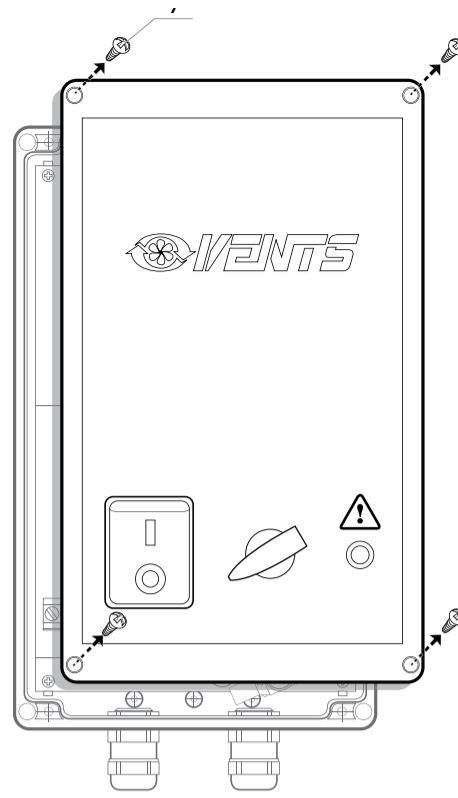

Fig. 2
- Remove the front panel by unscrewing self-tapping screws 7 (see Fig. 2);
- Fasten the controller to the mounting surface using mounting holes 8 (see Fig. 2) in the rear wall of the unit;